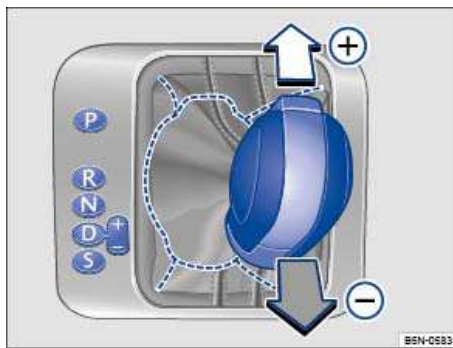

Fig. 142 Selector lever in Tiptronic position.
- Push the selector lever sideways to the right from Drive (D) position into the Tiptronic position ⇒ ⚠ in *Automatic transmission: Selector lever*
- Briefly push the selector lever forward (+) to upshift into a higher gear or backward (-) to downshift into a lower gear ⇒ fig. 142.